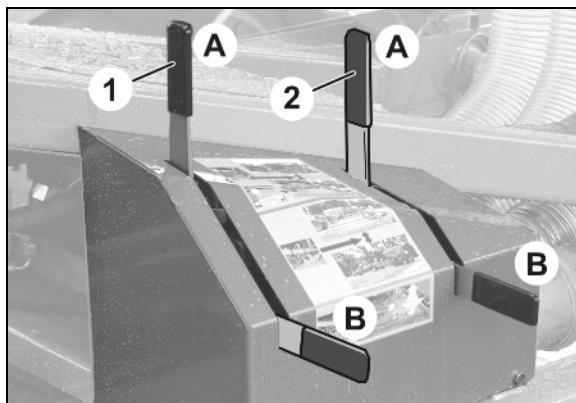

Fig. 110
1. Setting the hydraulic hand lever (Fig. 110)